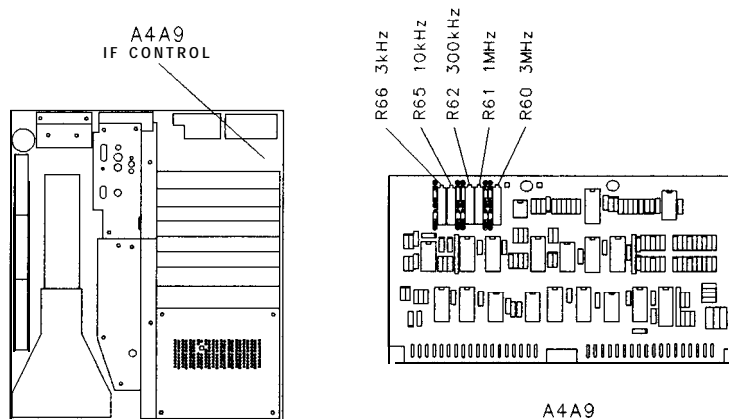

Figure 3-45. Location of 3 dB Bandwidth Adjustments
7. Adjust A4A9R60 3 MHz for a MARKER A indication of -3.00 dB ±0.05 dB. See Figure 3-45 for location of adjustment.